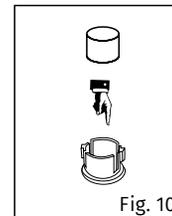

Fig. 10
2. Replace the used filter with a new one (Figure 10).